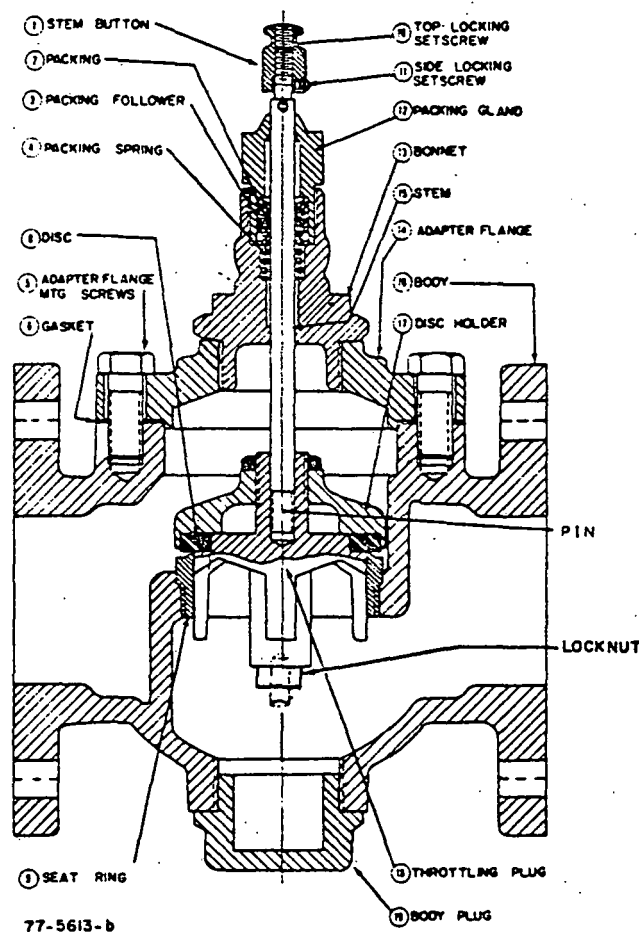

Fig. 2—Cutaway of Typical V5011A Flanged Type Body.
- c. Direct Acting Flanged Valves (V5011A) – The bonnet is removed together with the adapter flange that is attached with mounting screws (Fig. 2). The stem and plug assembly may then be lifted out.